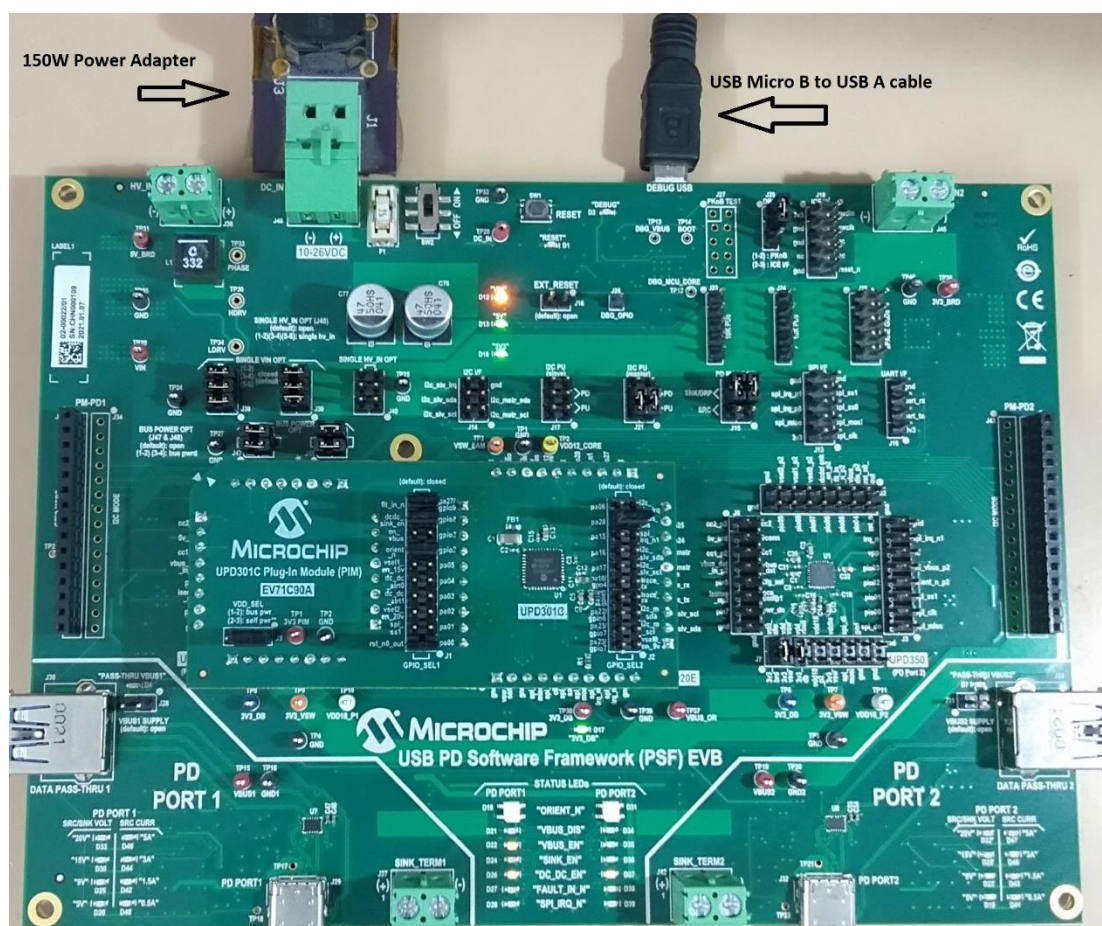

Figure 5.5 EVB PSF Full Setup
6. The whole connection looks as shown in the figure 5.5